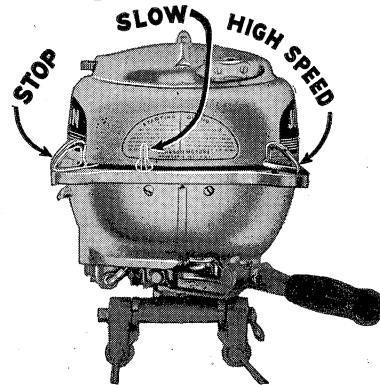

Fig. 10
Magneto and carburetor levers are synchronized, that is, operating in unison upon moving the magneto (speed control) lever. Fig. 10. This feature is of value in that any desired speed, within the limits of the motor, can be obtained by merely shifting positions of the magneto (speed control) lever; for full speed, shift to right; for intermediate and slow speeds shift to left (facing motor).
11. To stop motor, move speed control lever to extreme left (stop position)—hold until motor stops running. Fig. 10.